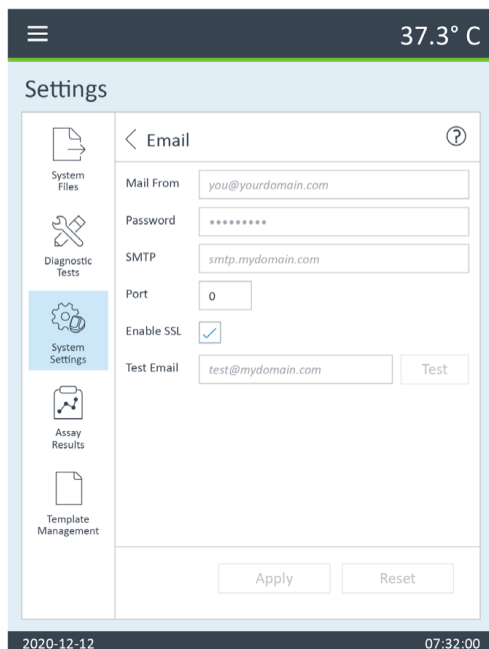

Figure 35. Example of a completed Email Configuration setup.
- Select the **Email Configuration** tab. (Figure 35).